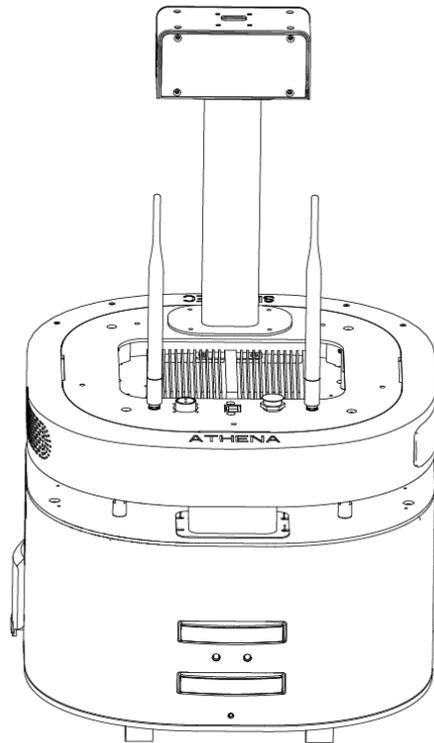
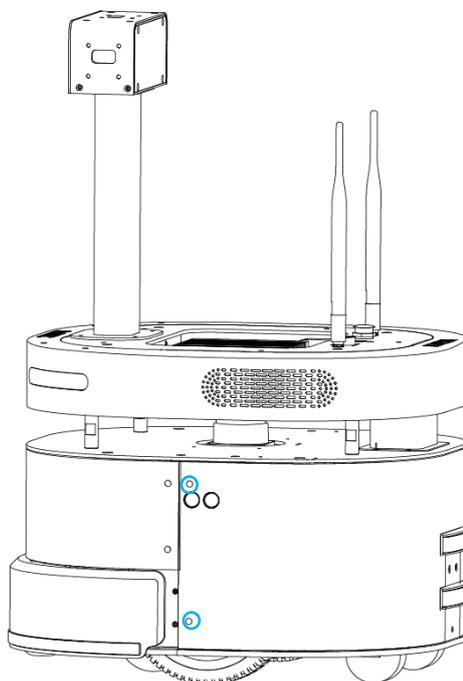
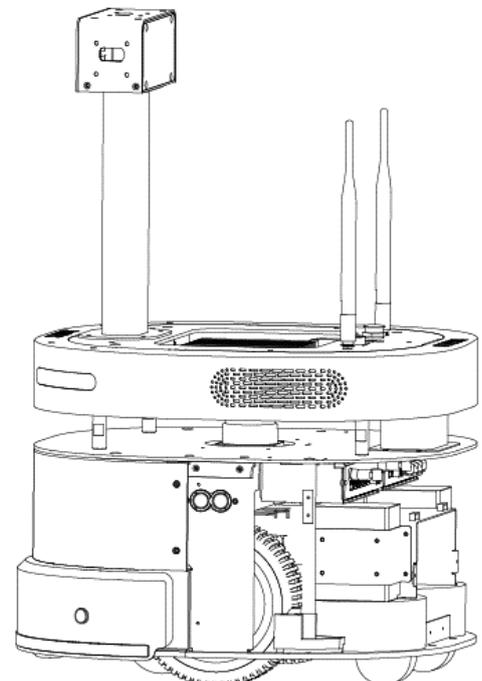

Figure 11
Figure 12
Figure 13
1. As shown in Figure 11, the side with charging electrodes is the back cover of Athena and you need to take it down to put battery in. And you can start from removing the blue circled M3\*8 screws in Figure 12, there are four M3\*8 screws in total. And then you can remove the whole Athena back cover from Athena as shown in Figure 13.